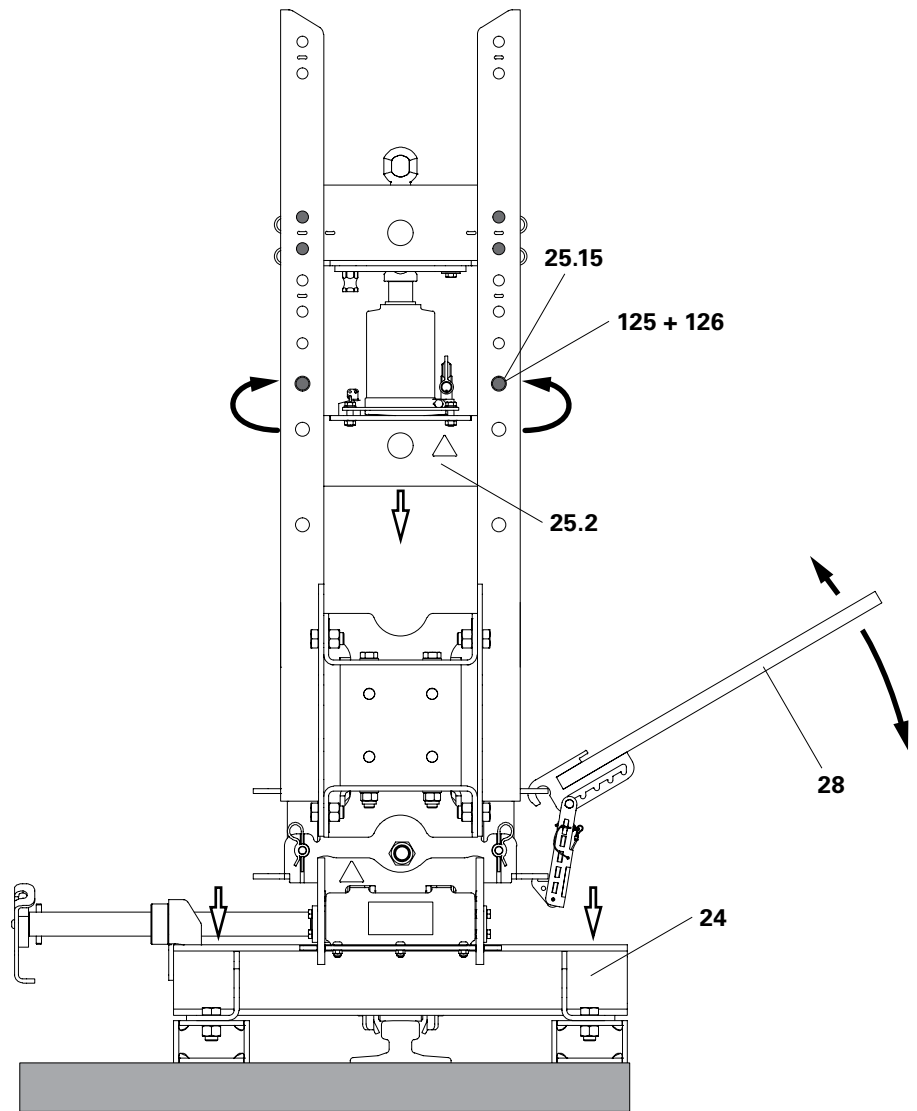

Fig. D2.10
1. Raise the Hinge Slide (24) slightly with the Lifting Tool (28) and thereby relieve the fitting pins (125) of the Cross Beam (25.2). See Section "Lifting Tool LALD VARIOKIT" on Page 24.
2. Remove fitting pins \varnothing 26 mm (125) and cotter pins 5/1 (126) and insert in the parking position (25.15).
3. Release the Lifting Tool and thereby lower the Hinge Slides (24) to the ground.
4. Hang the Lifting Tool in the Lift Frame for parking. (Fig. D2.10)